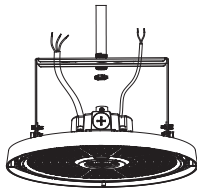

Figure 9
Step 2. Insert 1/2" NTP stem into the bracket hole. (Figure 9)